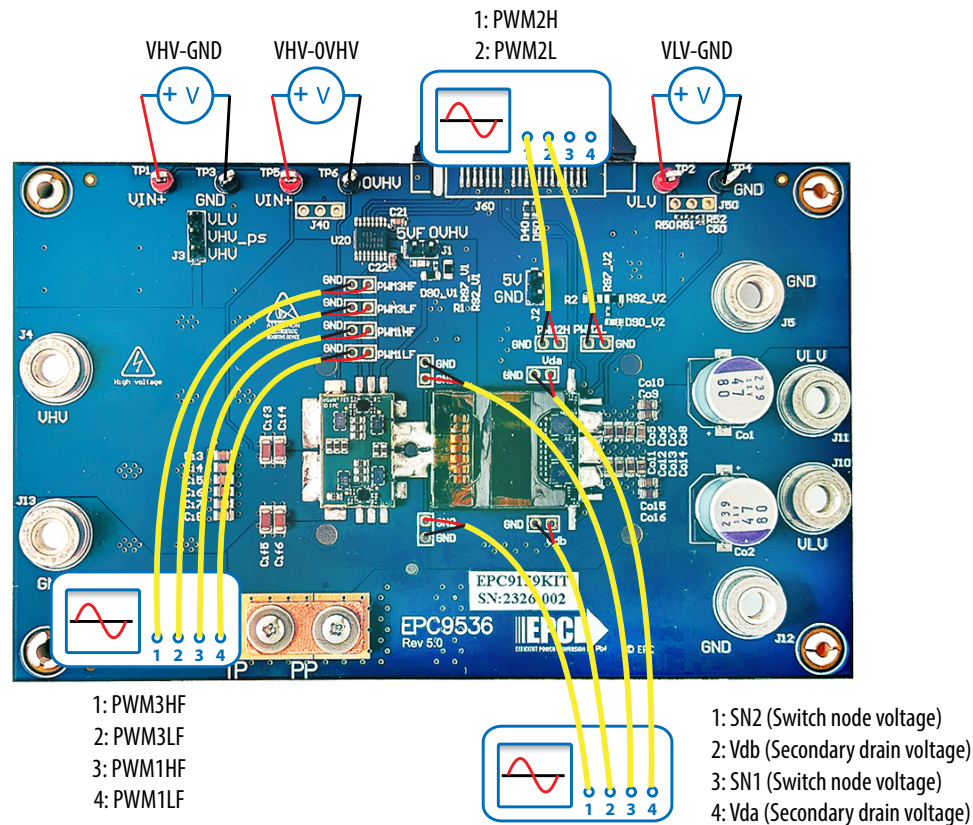
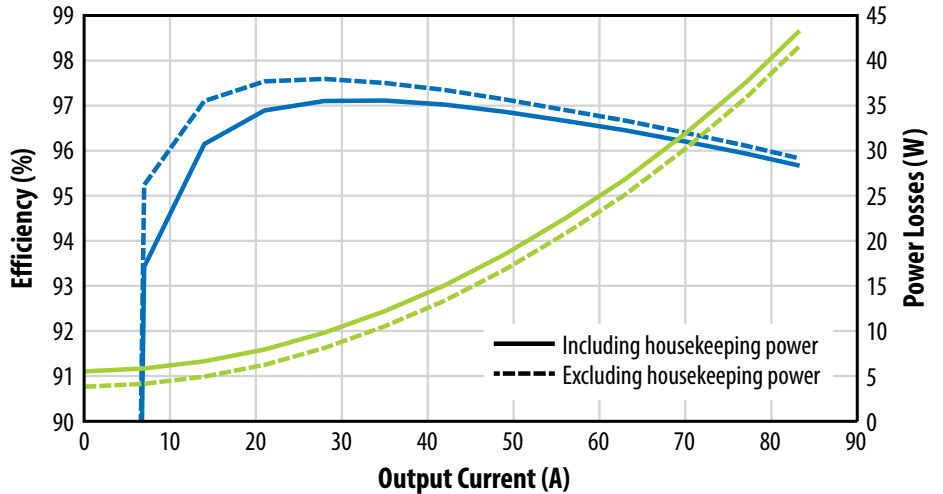
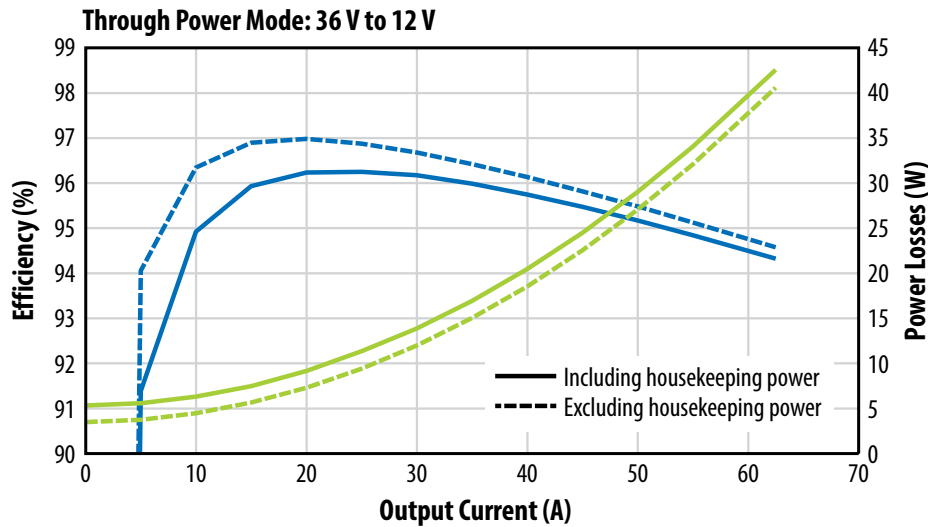

Figure 8: EPC9159KIT hookup locations for DC measurements and oscilloscope probe points for waveform measurements
Figure 12: Measured efficiency and power loss curves for the EPC9159KIT with the heatsink installed in Partial Power Mode
Figure 14: Measured efficiency and power loss curves for the EPC9159KIT with the heatsink installed operating in Through Power Mode with 400 LFM forced airflow
Figure 8 shows the various measurement connections of the EPC9159KIT demonstration kit. The motherboard is equipped with Kelvin sense points for DC voltage measurements of input and output voltages, needed for accurate converter efficiency measurements.
6. With power off, connect the various measurement probes as shown in figure 8.
The measured power loss and efficiency of the EPC9159KIT operating in Partial Power Mode with 400 LFM forced airflow and heatsink installed is shown in figure 12. Input and output DC voltages were measured using the Kelvin connections shown in figure 8. Input DC current was measured using a shunt resistor between the output of power supply and the VHV terminal of the kit, and output current was controlled and measured using a controllable electronic load. Two cases, one that includes housekeeping power (solid lines) and the other excluding it (dashed lines) are provided.
The measured power loss and efficiency of the EPC9159KIT operating in Through Power Mode with 400 LFM forced airflow and heatsink installed is shown in figure 14. Input and output DC voltages were measured using the Kelvin connections shown in figure 8. Input DC current was measured using a shunt resistor between the output of power supply and the VHV terminal of the kit, and output current was controlled and measured using a controllable electronic load. Two cases, one that includes housekeeping power (solid lines) and the other excluding it (dashed lines) are provided.